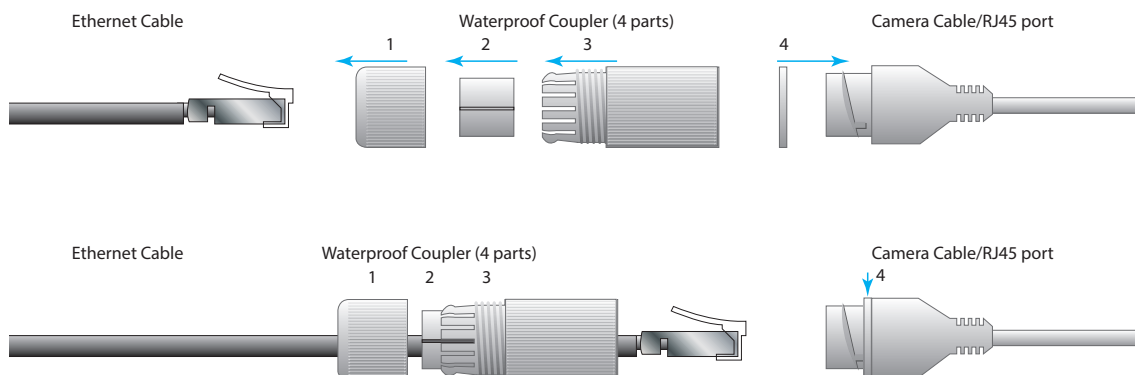

Fig. 7
10. Install the four-piece waterproof coupler that came with the camera. Three pieces (1, 2, and 3) are installed over the Ethernet cable, while the fourth piece, the thin washer (4), is inserted over the RJ45 port of the camera cable. See Fig. 7.